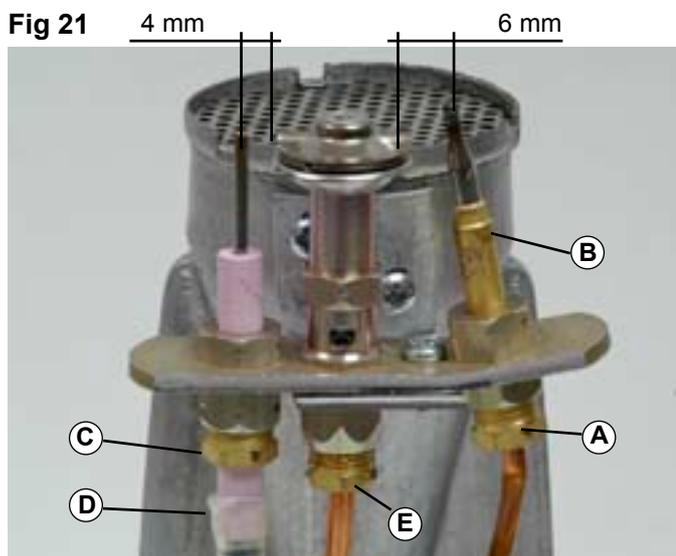

Fig 21
2. Slacken the nut (fig 21 A) a few turns and pull the thermo-element (fig 21 B) down out of the holder.
NOTE! The tip of the thermo-element must be pressed up as far as it will go in the holder, before the nut is tightened. Check the distance, see fig 21.
2. Slacken the nut (fig 21 C) on the spark plug and unscrew. Pull down the spark plug, nut and cable with silicone sleeve and take them out at the side. Remove the plug from the cable and nut, and destroy it immediately by bending the electrode so that it cannot be confused with a new plug.
3. Fit the nut to the new plug and connect the cable. Pull the silicon sleeve (fig 21 D) over the joint, approximately 5 - 8 mm on to the plug. Insert the spark plug in place and tighten the nut carefully. Check the distans, see fig 21.
2. Slacken the nut on the gas pipe (fig 21 E) on the pilot burner and pull down the pipe.
3. Slacken the nut (fig 21 A) to be thermo-element a few turns and pull it down out of the holder.
4. Unscrew the nut (fig 21 C) which holds the spark plug and pull it down from the holder.